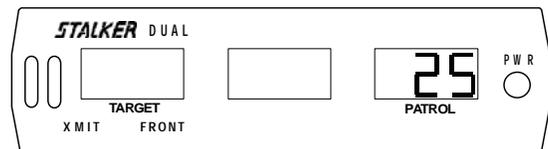
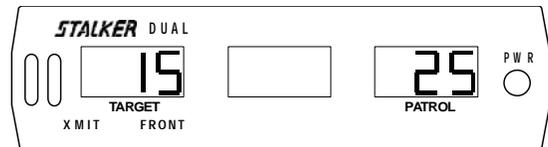

Fig 51
Fig 52
Two (2) tuning forks are supplied for **STALKER DUAL**. The tuning forks are calibrated for 25 mph and 40 mph (40 and 64 kph). To perform the tuning fork test, power the unit ON (press **PWR** switch), select moving mode (press **MOV/STA** key), select the front antenna (press **ANT** key), and place the unit in transmit mode (press **XMIT** key). Strike both tuning forks against a hard nonmetallic surface, such as the heel of a shoe. Quickly hold the lower speed fork approximately two (2) inches in front of the antenna, with the narrow edge of the fork facing the antenna. The patrol window should indicate 25 ± 1 mph (40 kph) (Fig 51). Now move the higher speed fork in front of the antenna with the narrow edge facing the antenna. The target window should register 15 mph ± 2 (24 kph) (Fig 52), which is the difference in speed of the two forks. Repeat the above test with the rear antenna selected, if installed. *Note: We recommend that the tuning fork test be performed on each antenna. Some departments perform this test both before and after each citation. Check your department policy.*